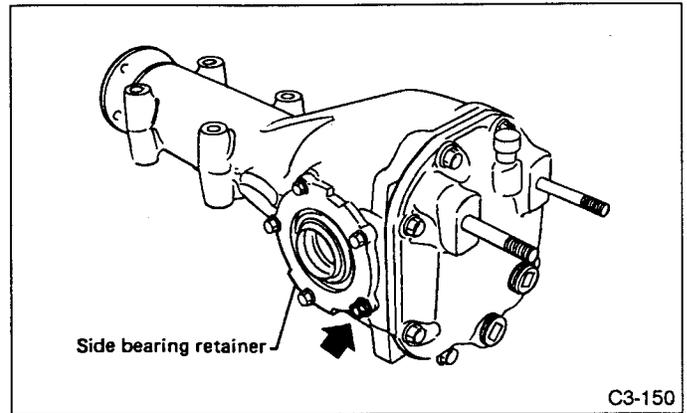

Fig. 108
15) Remove DOJ from rear differential using DRIVE SHAFT REMOVER (28099PA100). **Be careful not to damage side bearing retainer. Always use bolt (shown in Figure 108.) as supporting point for REMOVER during removal.**